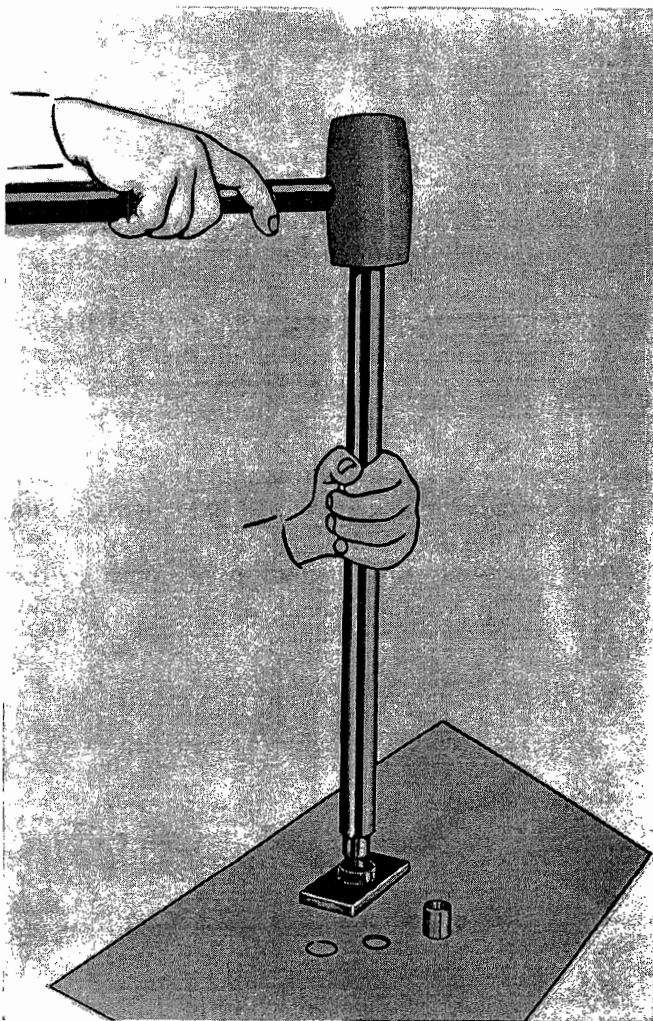

Fig. 108
Insert the nine balls in the valve seat (40); hold them in position with a little soft grease; close with washer, and then fit on support (see Fig. 108): « Tool » at page 115.